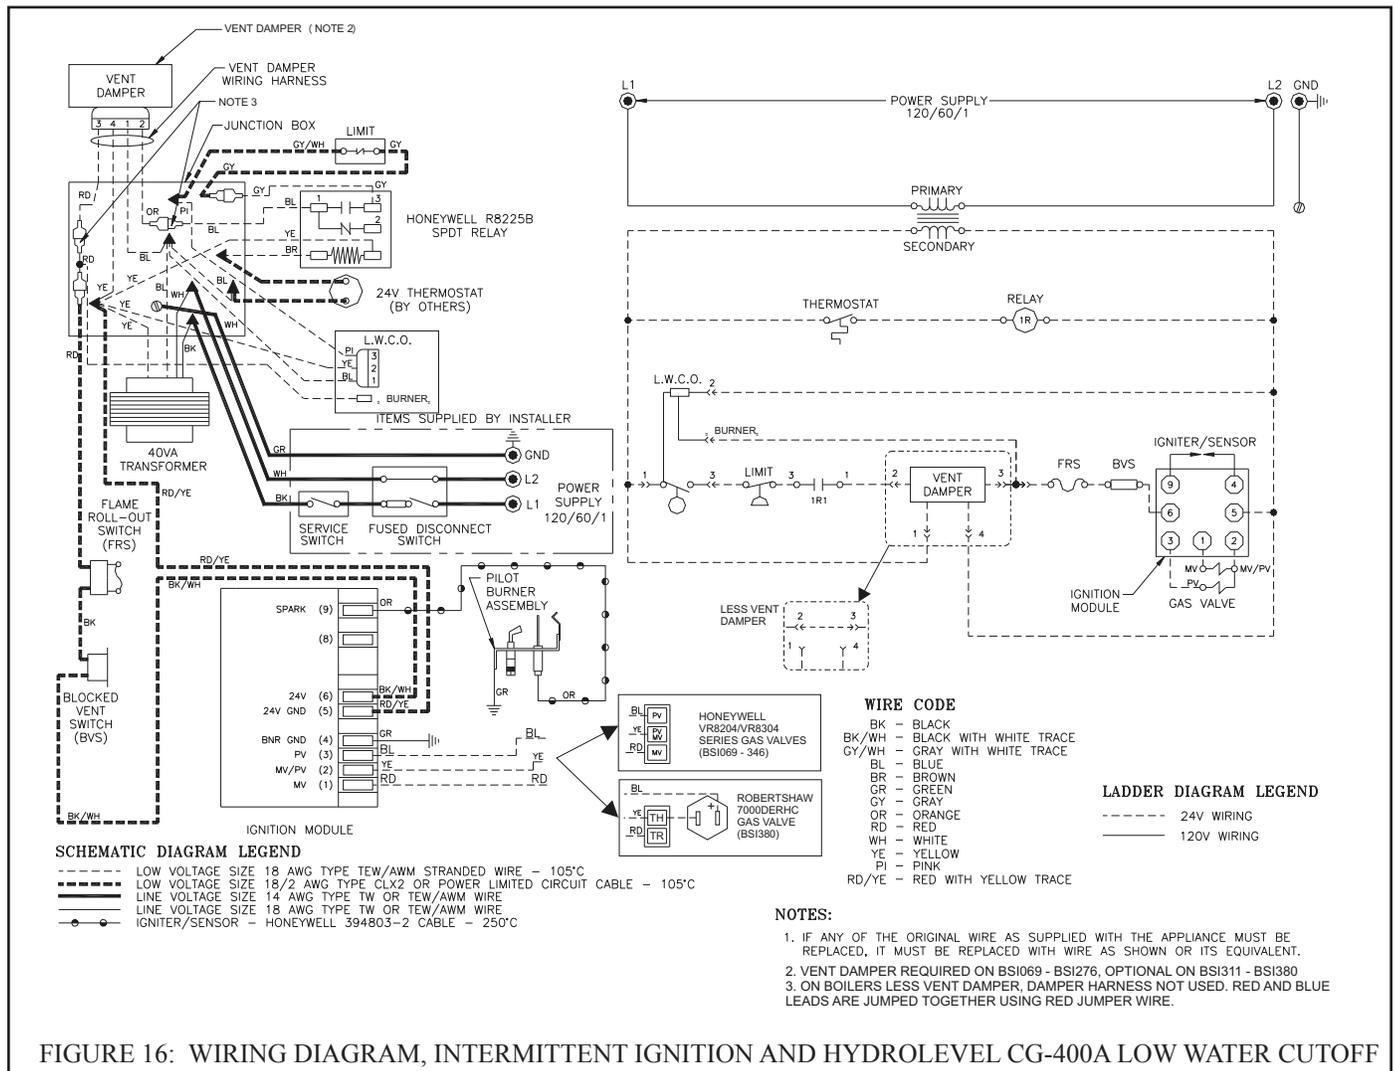

FIGURE 16: WIRING DIAGRAM, INTERMITTENT IGNITION AND HYDROLEVEL CG-400A LOW WATER CUTOFF
- 1) 120 Volt Wiring - The boiler should be provided with its own 15A branch circuit with fused disconnect. All 120 volt connections are made inside the junction box on the left side of the boiler. Remove the transformer to gain access to this box (also see Figures 16 through 17):
(Refer to Figures 16 & 17 for ladder and connection diagrams)